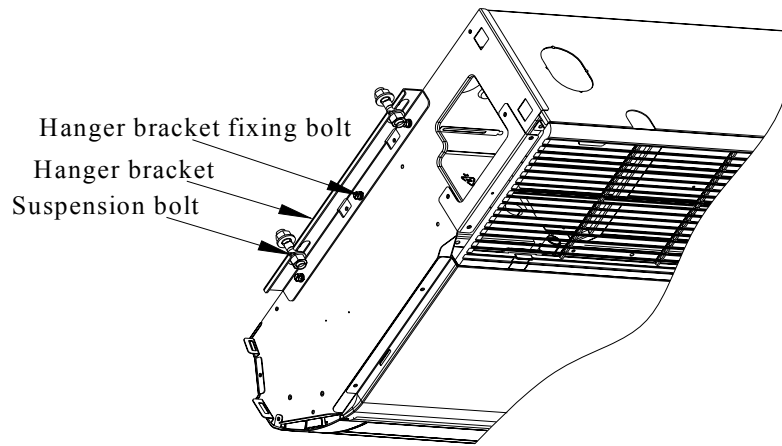

Fig. 11-5
3. Loosen two hanger bracket setting bolts (M8) on earth side for less than 10mm. Remove two hanger bracket fixing bolts (M6) on the rear side. Detach the hanger bracket by pulling it backward (See Fig. 11-5)